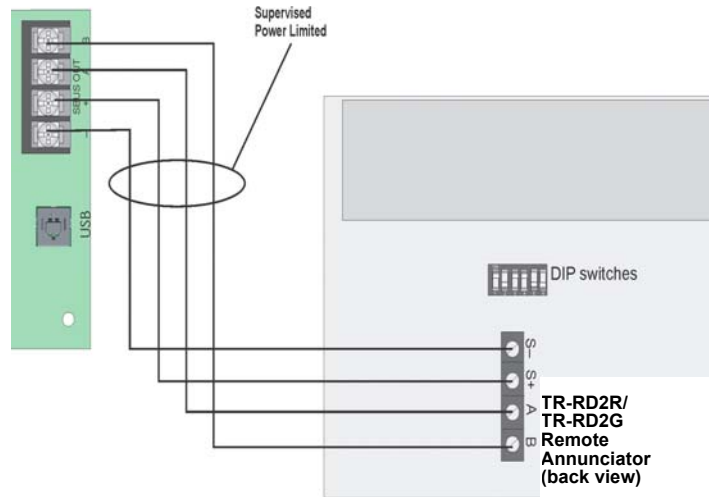

Figure 7 SBUS Connections
3. Connect the TR-RD2R/TR-RD2G to the panel (see Figure 7).
3. Wire the annunciator board to the main control panel. See Figure 7.
3. Connect the wires from the TR-RD2R/TR-RD2G to the SBUS connectors on the FACP. See Figure 7.
Wire the TR-RD2R/TR-RD2G to the FACP as shown in Figure 7.